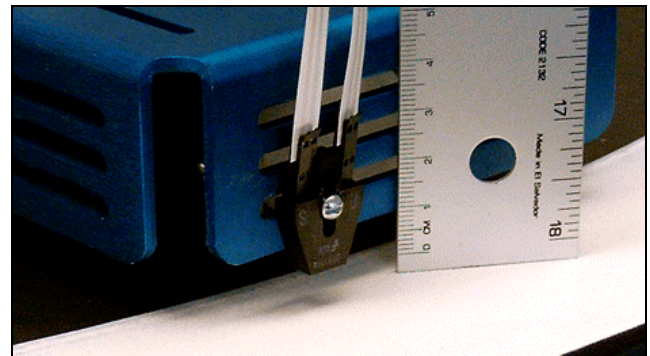

Figure 2. Troubleshooting the sensors.
3. With your robot's wheels suspended off the platform, turn your robot on, and gently raise and lower the front of the robot, as shown in Figure 2. Note the precise height at which the wheels reverse direction, and adjust the height of your sensors accordingly.